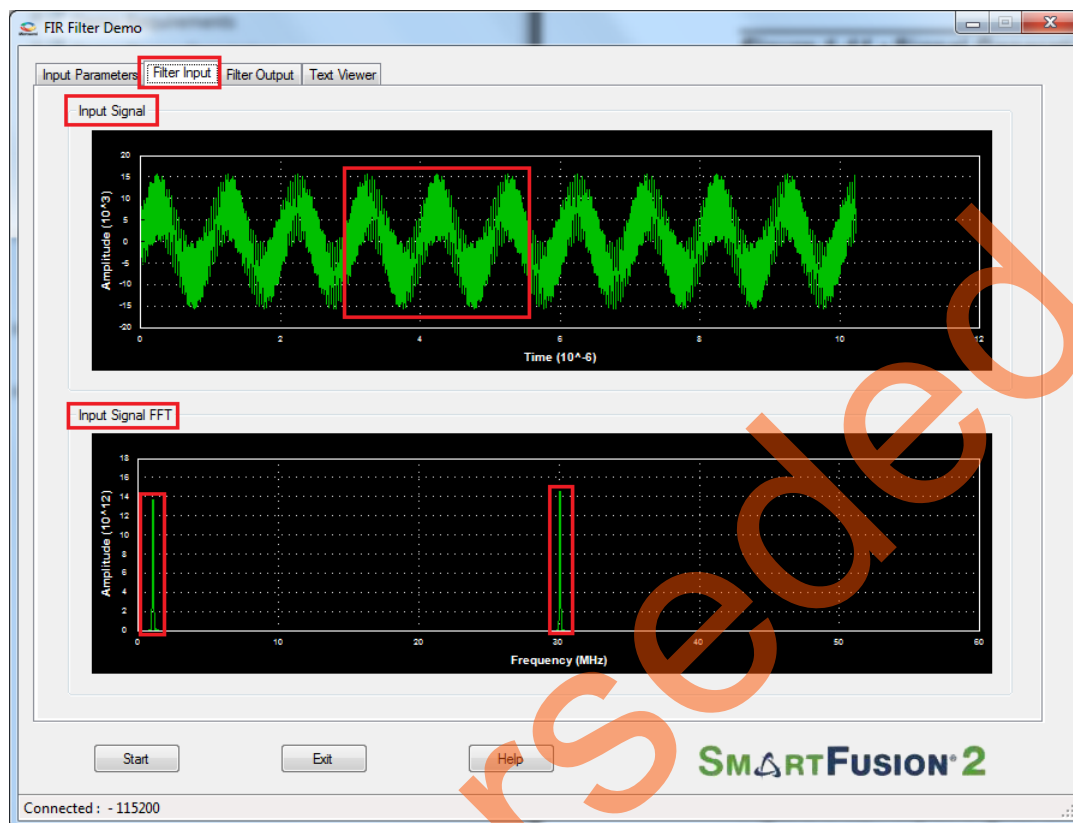

Figure 15 • Input Signal and Input Signal FFT Plot
6. Input signal and the frequency spectrum of the specified signal are displayed as shown in Figure 15.